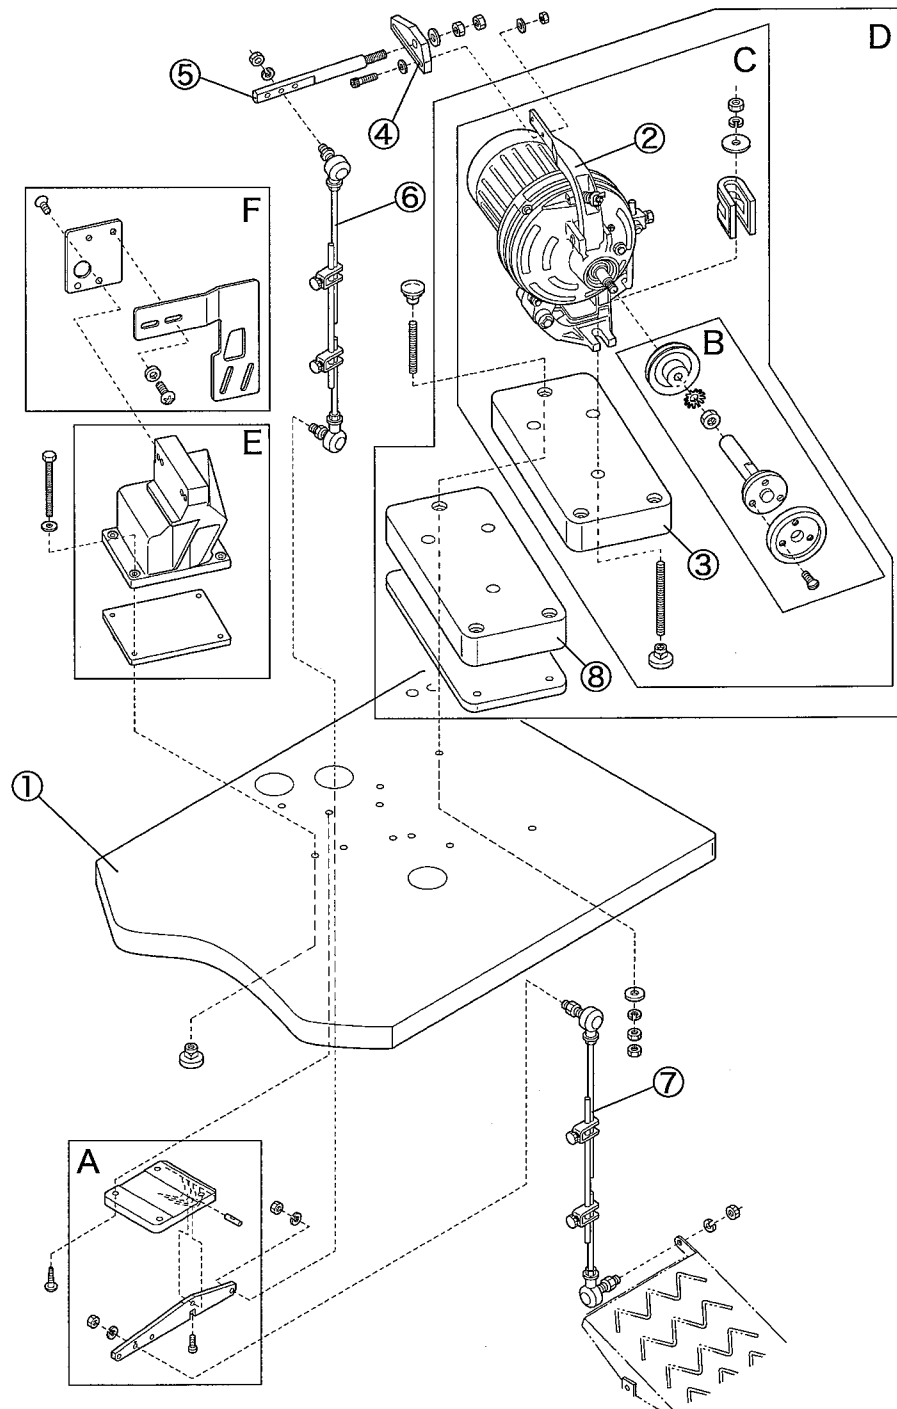

Fig. 1-3
Motor support (lower) (Fig1-3 ③ and ⑧, Fig1-4 ⑤ and ⑨)
See Fig.1-3 to assemble the machine according to the following steps: